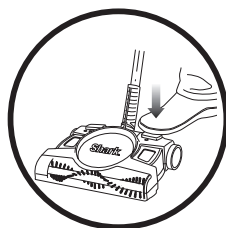

Fig. 3
- 3 Using your foot, press the On/Off button and push your cordless floor and carpet sweeper forward over the surface you wish to clean. (fig. 3)